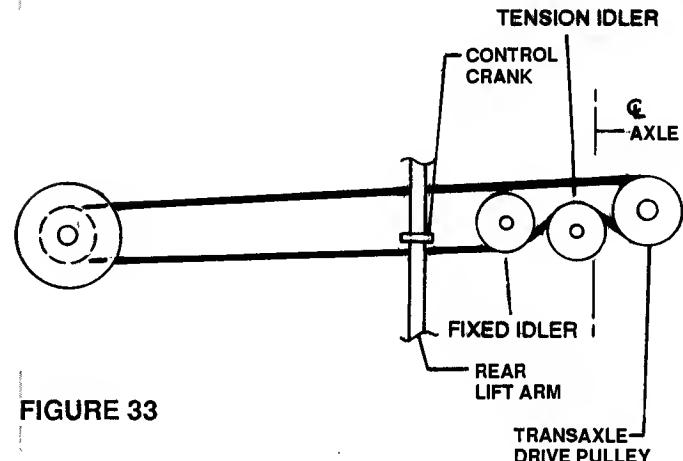

FIGURE 33
- Place belt over CONTROL CRANK and between rear lift arm and tractor frame. See Figure 33 "DRIVE BELT ROUTING".